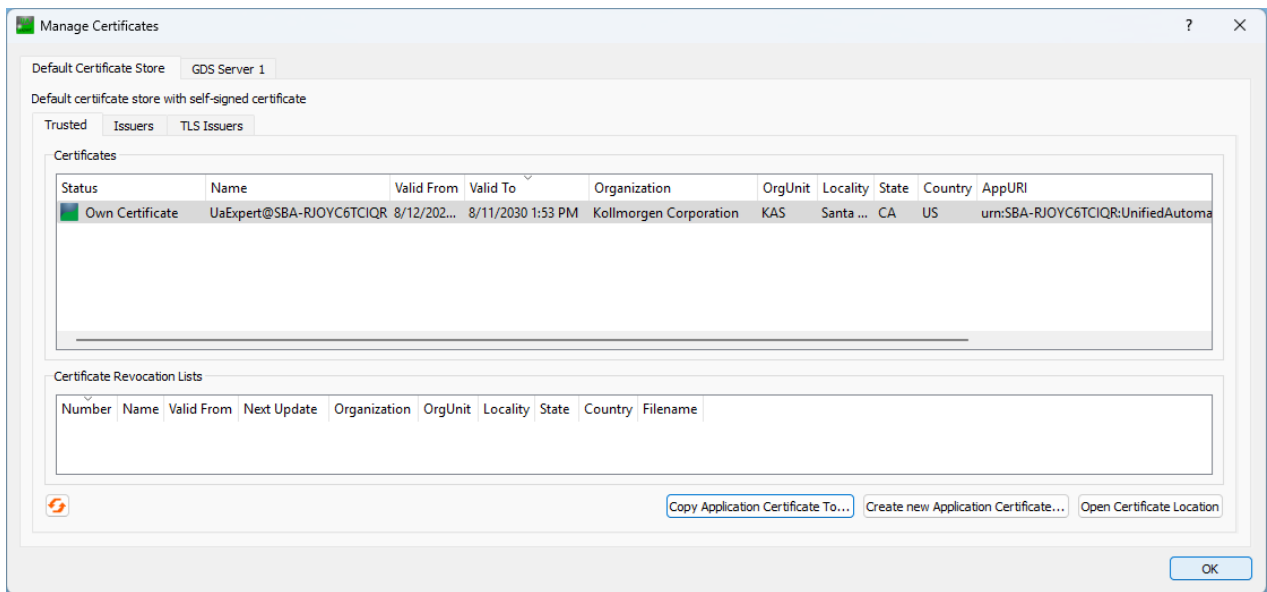

Figure 3-11: Manage Certificates dialog box
10. On the UaExpert toolbar, click the **Settings** button and select **Manage Certificates > Properties**. The UaExpert **Manage Certificates** dialog box opens. (Figure 3-11)